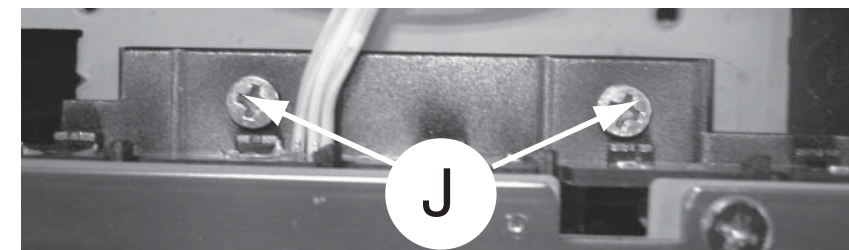

Figure 14
- 1) Loosen 2 screws "J" at the bracket as shown in figure 14.